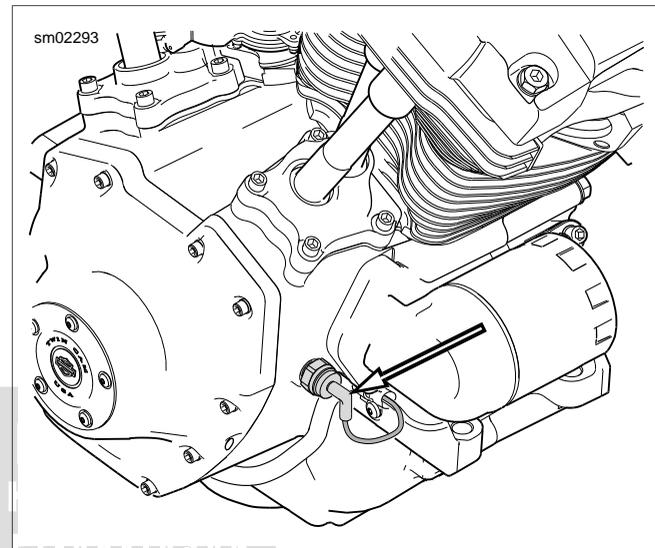

Figure 3-9. Oil Pressure Switch
2. See Figure 3-9. Remove oil pressure switch from crankcase. See 8.24 OIL PRESSURE SWITCH AND SENDER.